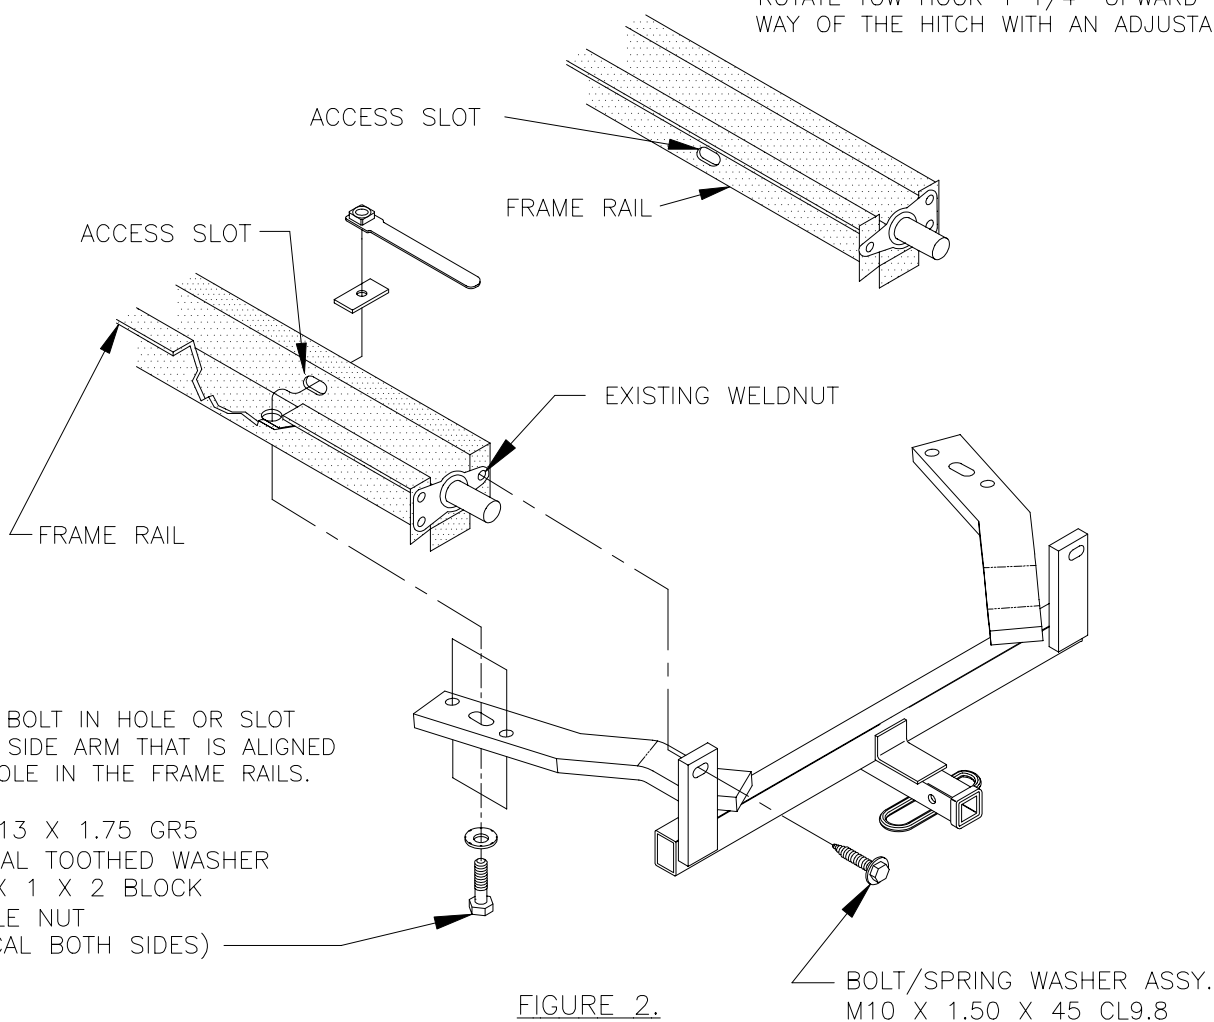

FIGURE 2.
2. REMOVE TWO (2) INBOARD E.A. BOLTS, ONE (1) PER SIDE FROM E.A. UNIT (SEE FIGURE 2), DISCARD BOLTS.
3. POSITION HITCH ON VEHICLE AND ATTACH WITH TWO (2) M10 BOLTS, ON THE INBOARD SIDE OF THE E.A., ONE PER SIDE, AS SHOWN IN FIGURES 2 AND 4.
4. INSERT BLOCK AND HANDLE NUT THROUGH ACCESS SLOT. INSTALL HEX BOLT AND CONICAL TOOTHED WASHER THROUGH FRAME AND BLOCK INTO HANDLE NUT AS SHOWN IN FIGURE 2. ENSURE THAT HANDLE NUT CAN BE EASILY THREADED ONTO BOLT BEFORE INSTALLATION.